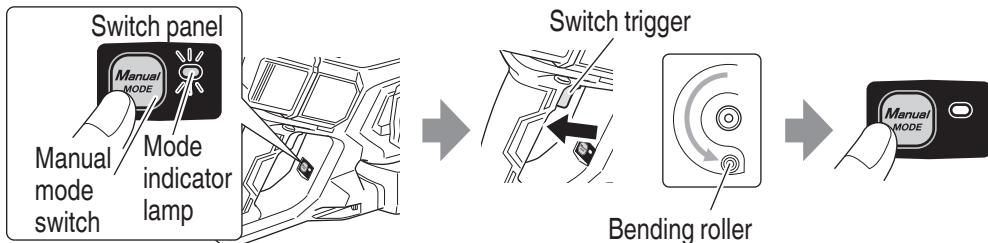

Fig. 18
- Press the Manual Mode switch (Fig. 18)